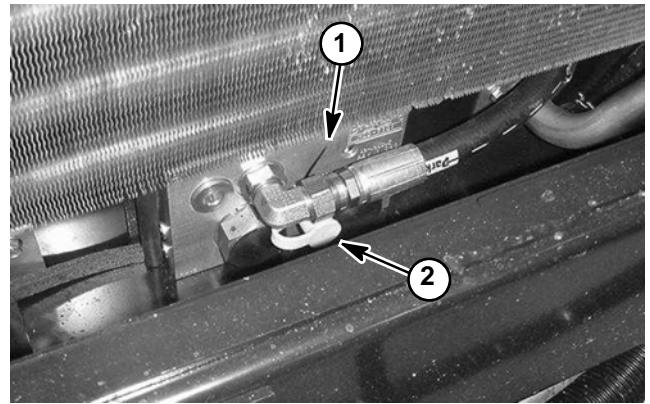

Figure 32
3. Connect a 1000 PSI (70 bar) pressure gauge to test port on 4WD manifold under radiator (Fig. 32).